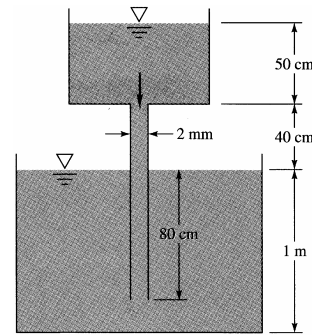

Fig. P6.25
6.25 For the configuration shown in Fig. P6.25, the fluid is ethyl alcohol at 20°C, and the tanks are very wide. Find the flow rate which occurs in m³/h. Is the flow laminar?